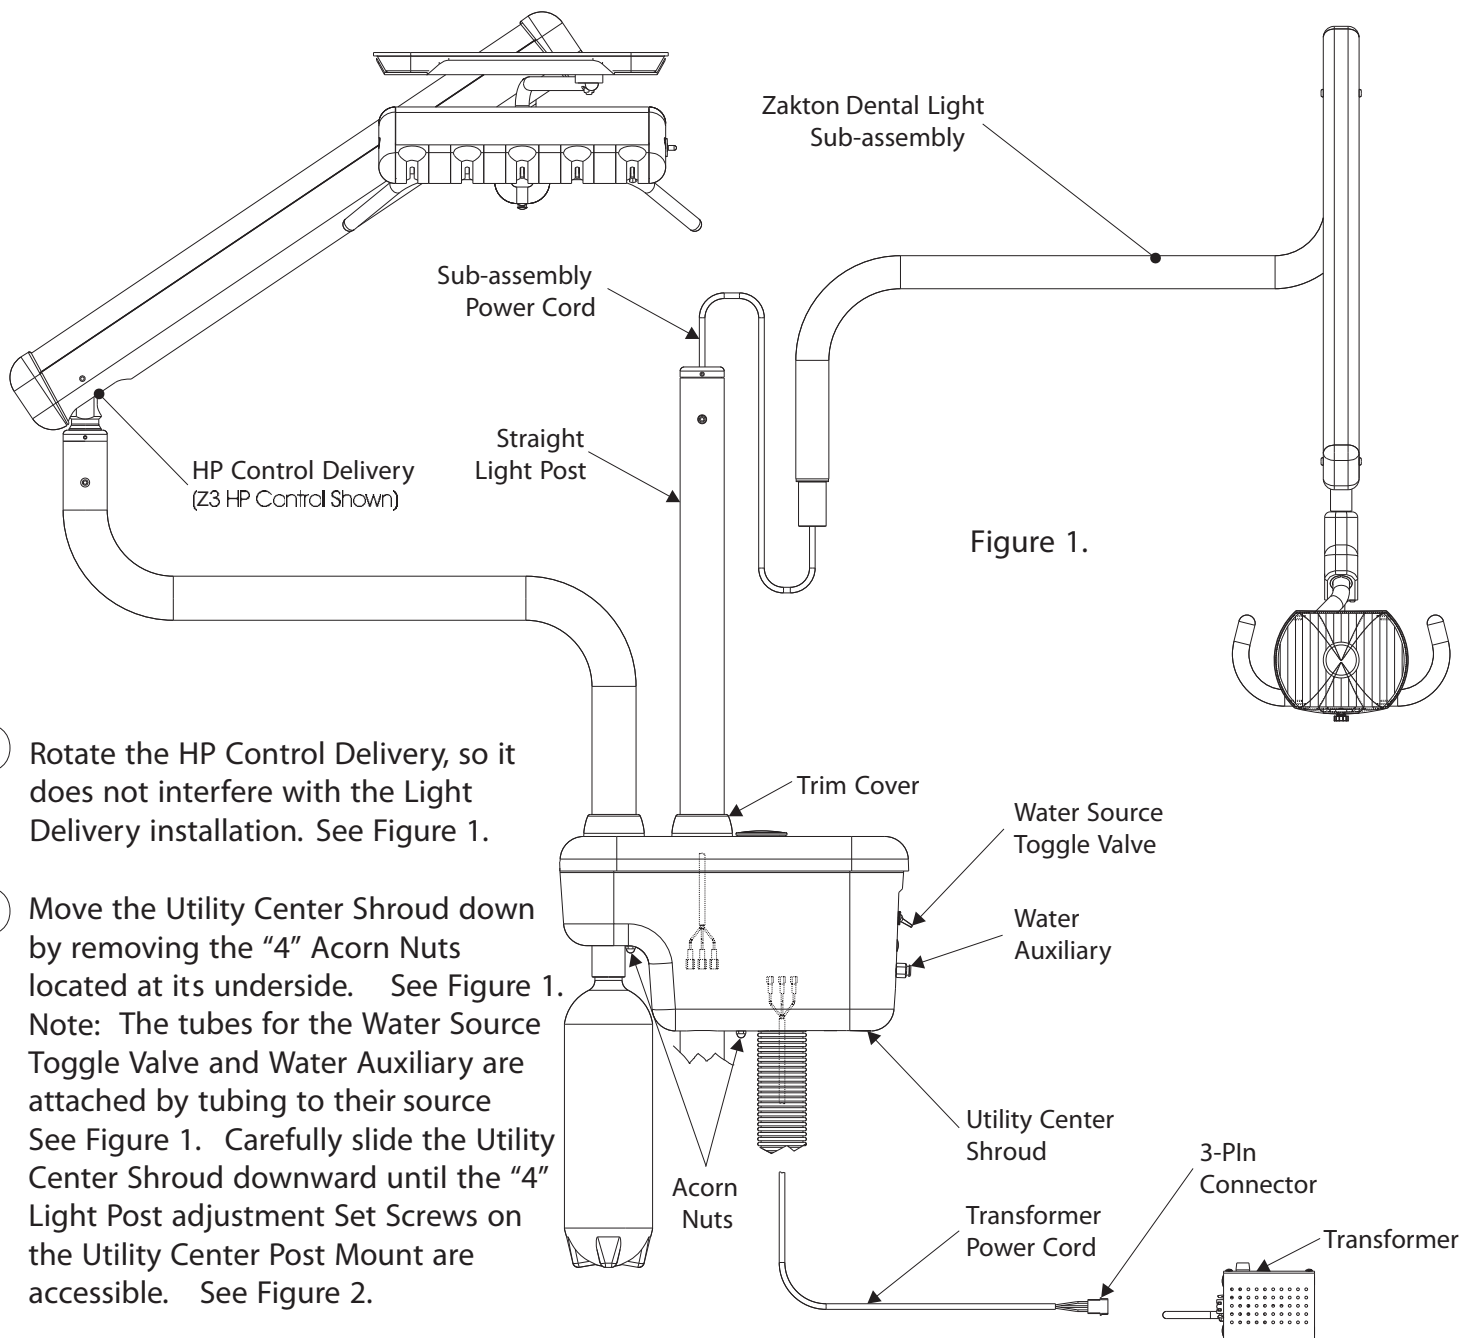
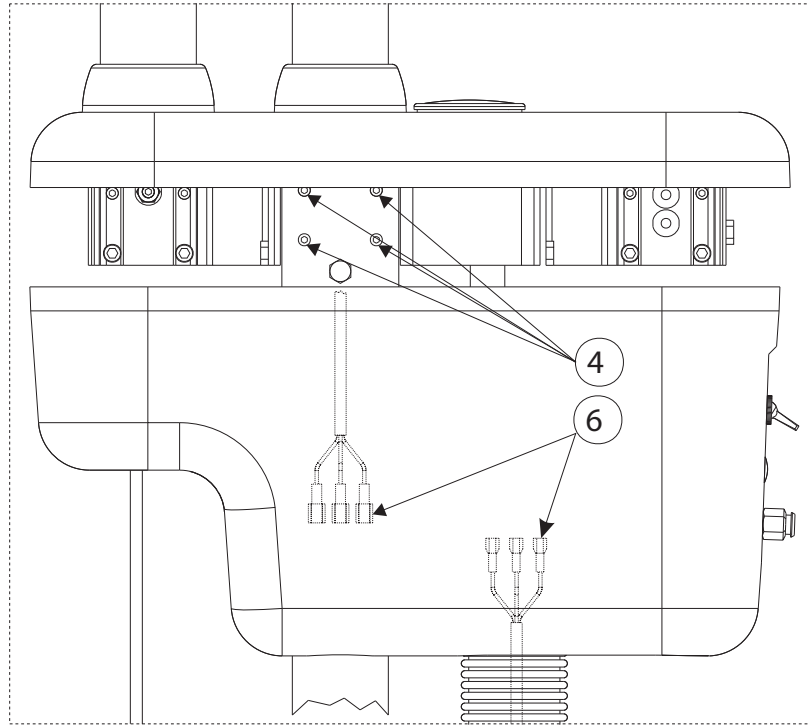

Figure 1.
Figure 2.
- 1 Rotate the HP Control Delivery, so it does not interfere with the Light Delivery installation. See Figure 1.
- 2 Move the Utility Center Shroud down by removing the "4" Acorn Nuts located at its underside. See Figure 1. Note: The tubes for the Water Source Toggle Valve and Water Auxiliary are attached by tubing to their source See Figure 1. Carefully slide the Utility Center Shroud downward until the "4" Light Post adjustment Set Screws on the Utility Center Post Mount are accessible. See Figure 2.
- 3 Locate the Straight Light Post that was shipped with either the Utility Center shipping box if a Zakton Dental Light was not ordered or the Zakton Dental Light shipping box. Install it to the Utility Center. Then locate the Trim Cover that was shipped with the Utility Center, and slide it down, around the Straight Light Post. See Figure 1.
- 4 Plumb the Straight Light Post by adjusting the "4" Set Screws. See Figure 2. Make sure that the Straight Light Post is vertically plumb from all sides. If a Zakton Dental Light was not ordered with this package you are finished with this page. If a Zakton Dental Light was ordered with this package proceed to step 5.